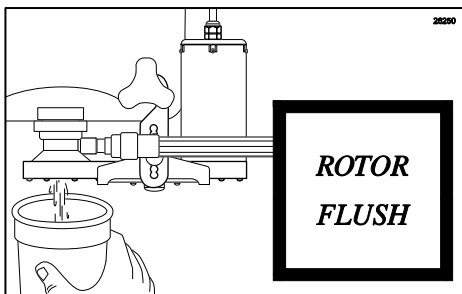

Figure 21
1. With a container under the dispensing spout, press the ROTOR FLUSH key on the Keypad to purge any remaining product from the Injector Head. (See Figure 21.)